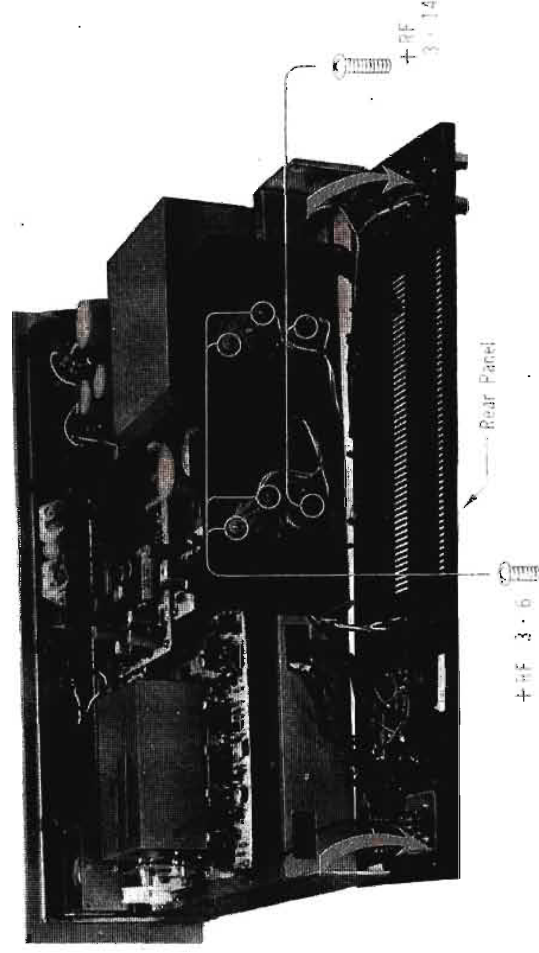

Fig. 2-6-1 Removal of Rear Panel
- (c) Pull the rear panel forward and down. See Fig. 2-6-1.
- (d) Loosen off two machine screws (+RF3 ϕ ×6) that hold the CS₁ mounting base. See Fig. 2-6-1.
- (1) Loosen off two screws (+K3 ϕ ×6) at each side of the chassis to tilt the rear panel. See Fig. 2-6-1.
- (2) Loosen off two screws (+RF3 ϕ ×4) securing the transistor to the heat sink.
- (3) Install the replacement.
- (4) When replacing a power transistor, apply a coat of heat-transferring silicone grease to both sides of the mica insulation. The grease fills the tiny dents in the mating surfaces, thereby improving heat transfer to the heat sink.
- (5) Any excess grease, that is squeezed out when the mounting bolts are tightened, can be wiped off with a clean cloth, to prevent it from attracting conductive dust particles that would eventually short out the insulation.